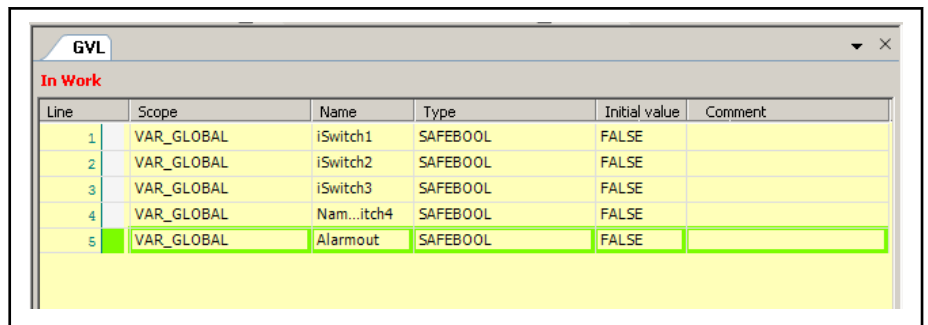

Fig. 6-27: GVL editor
3. Double-click on the desired cell in the editor (see fig. 6-27 "GVL editor" on page 59) to open it